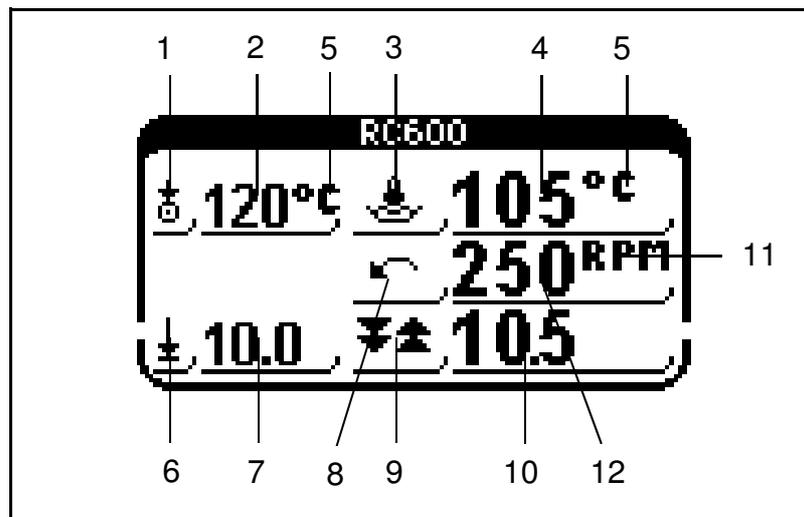

Fig. 10: Displays on the screen
- Displays setpoint and actual temperature (Fig. 10/2+4, page 34);
- Displays the speed of the evaporator flask (12)
When the heating bath or rotation of the evaporation flask is switched on, the corresponding icon will flash (Fig. 10/1+8).